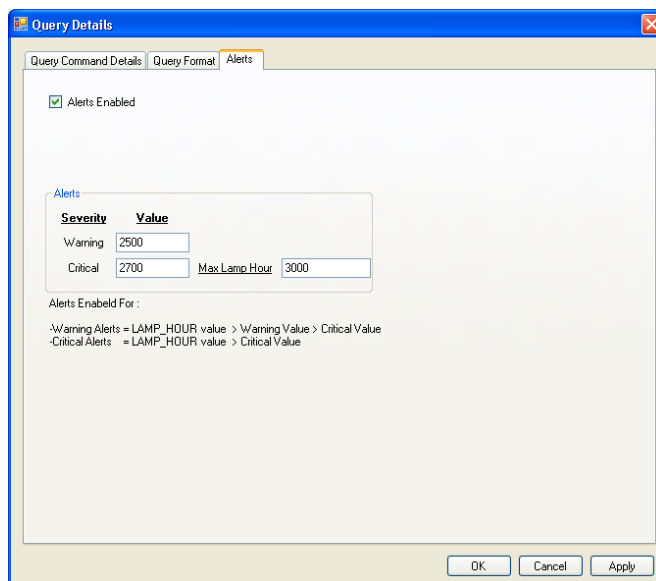

Figure 164: Alerts Window (Lamp Hours)
- In the Alerts tab, set the alert values, see Figure 164.